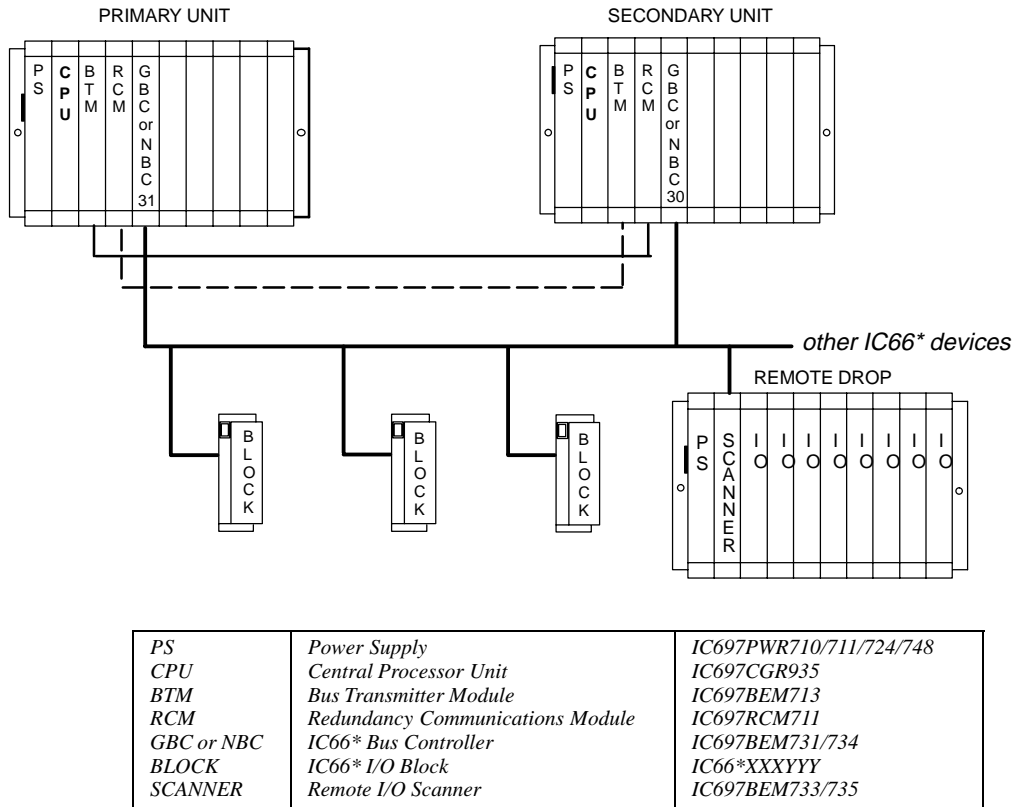

Figure 1. Typical Hot Standby CPU Redundancy System Configuration
The CGR935 is used as the controller in a CPU Redundancy system. Two redundancy control methods can be configured using the CGR 935. The GHS method (IC660/661 Hot Standby) uses multiple single bus IC660/661 I/O networks with one redundant controller in each synchronized PLC. The GDB method uses multiple I/O networks with either single or dual busses in each synchronized PLC with the capability of either unit being activated with bumpless switch. The location of the CGR935 modules in a typical Hot Standby CPU Redundancy system is shown in Figure 1.
- Install in slot 1 of rack 0. (See Figure 1)
- Turn on power. The module should power up and the top left (OK) LED should blink. When the diagnostics have completed successfully, the top left LED stays on and the second (RUN) and third (EN) LEDs are off. The fourth (bottom left) LED (MEM PROTECT) is off if the keyswitch is in the OFF position. The CPU is now ready to be programmed (if connected parallel, the CPU can be programmed regardless of key position). After the program has been verified, the toggle switch can be moved to the appropriate operation mode position; RUN WITH OUTPUTS ENABLED, RUN WITH OUTPUTS DISABLED, or STOP. The LEDs indicate the position of the toggle
The programmer connects to the top port on the Bus Transmitter Module (IC697BEM713) for a parallel interface (MS-DOS programmer only) as shown in Figure 1.